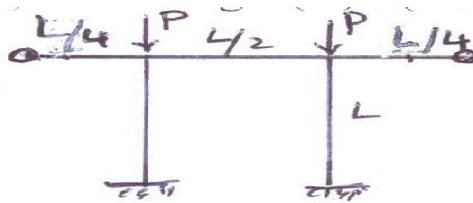

Figure 2
- Compute the critical load of the frame by using energy methods? Assume all members has same modulus of rigidity (EI) ? (Refer Figure 2) (6M)